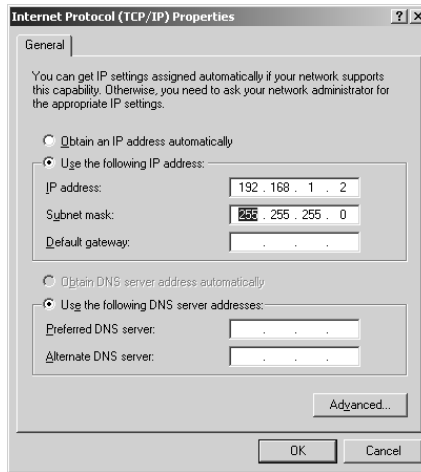

Figure 4: Internet Protocol (TCP/IP) Properties Window
6. Select Use the following IP address, and fill in the details as shown in Figure 4.